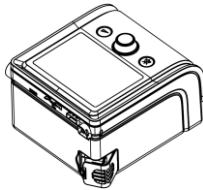

Fig. 12-2
(2) Install the filter cap containing the air filter to the main device, as shown in Fig. 12-2.